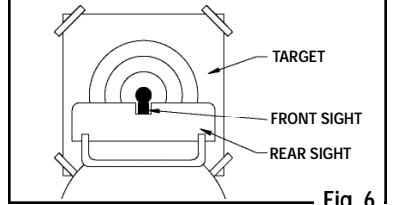

Fig. 6
- The air rifle is correctly aimed when the front sight blade is positioned exactly in the notch of the rear sight. The top of the front sight blade should be even with the top of the notch in the rear sight. The bullseye should appear to rest on the top of the front sight (Fig. 6).